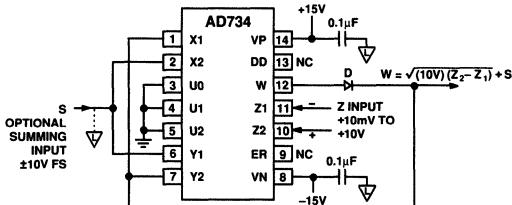

Figure 9. Connection for Square Rooting
In some cases, feedback may be connected to two of the available inputs. This is true for the square-rooting connections (Figure 9), where W is connected to both X_1 and Z_2 . Setting $X_1 = W$ and $Z_2 = W$ in Equation (2), and anticipating the possibility of again providing a summing input, so setting $X_2 = S$ and $Y_1 = S$, we find, in shorthand form
The AD734 may be used to generate an output proportional to the square-root of an input using the connections shown in Figure 9. Feedback is now via both the X and Y inputs, and is always negative because of the reversed-polarity between these two inputs. The Z input must have the polarity shown, but because it is applied to a differential port, either polarity of input can be accepted with reversal of Z1 and Z2, if necessary. The diode D, which can be any small-signal type (1N4148 being suitable) is included to prevent a latching condition which could occur if the input momentarily was of the incorrect polarity of the input, the output will be always negative.